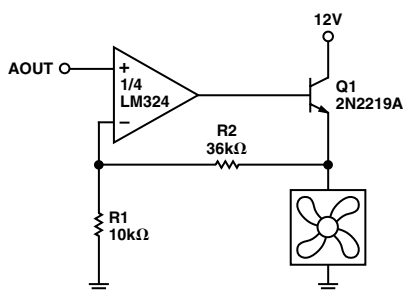

Figure 9a. Fan Drive Circuit with Op Amp and Emitter-Follower
Suitable fan drive circuits are given in Figures 9a to 9f. When using any of these circuits, the following points should be noted:
1. All of these circuits will provide an output range from 0 V to almost 12 V, apart from Figure 9a which loses the base-emitter voltage drop of Q1 due to the emitter-follower configuration.